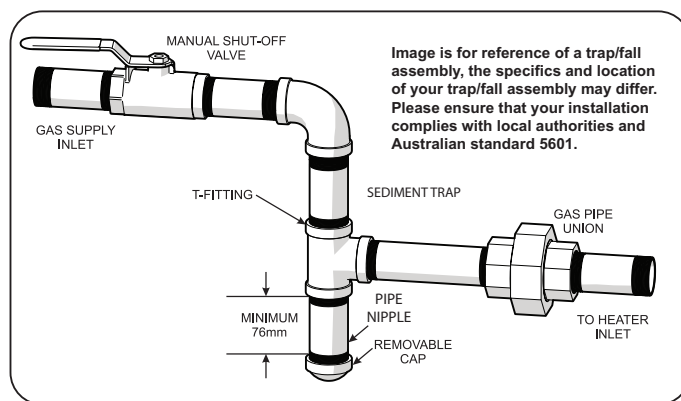

Figure 5. Manual Shut-off Valve and Sediment Trap
- Where required by local code, install a sediment trap/condensate fall and gas union in accordance with Australia standard 5601. See *Figure 5*
Do not use flexible appliance connectors on any gas connections unless the connector is AGA approved for outdoor installation, and is marked with the BTUH capacity (which must be equal to or greater than the heater rated input) and the type of gas (Natural or LP). Also, any flexible connectors, such as CSST buried underground must be certified for underground installation and meet all applicable codes. Please note, use of flexible connector still requires the installation of a sediment trap. See *Figure 5*.